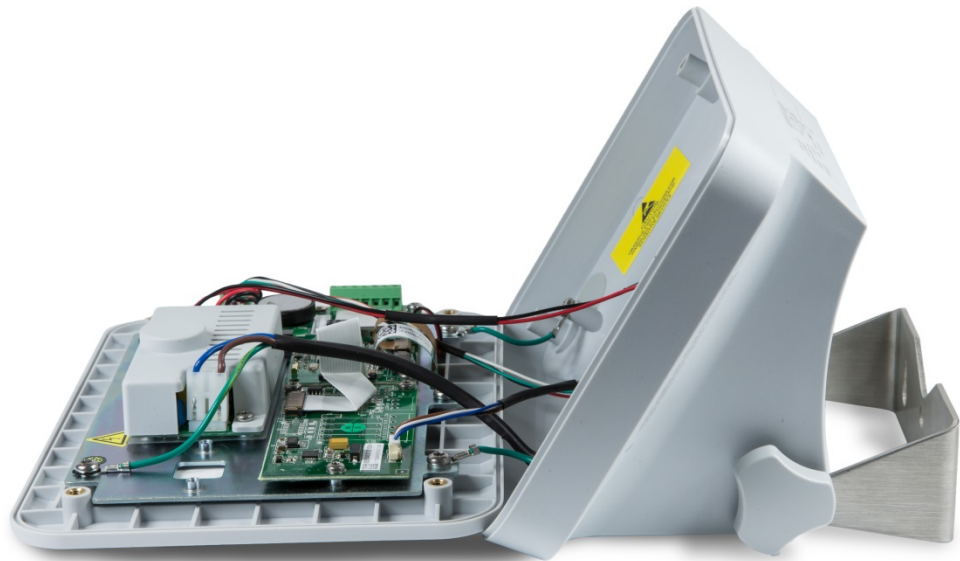

Figure 2-3: Removing the Cover
3. Separate the front housing from the rear housing, as shown in Figure 2-3.